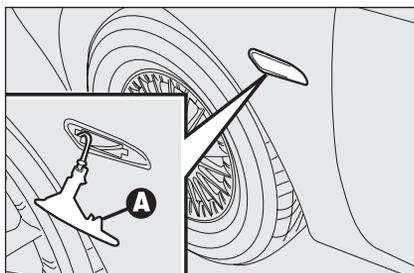

fig. 30
- push the lens by hand in opposite running direction in order to press the catch **A**-fig. 30. Release the front part and remove the unit;
- fit the bulb holder **B** into the lens **C** then position the unit, the catch shall click into place **A**-fig. 30.